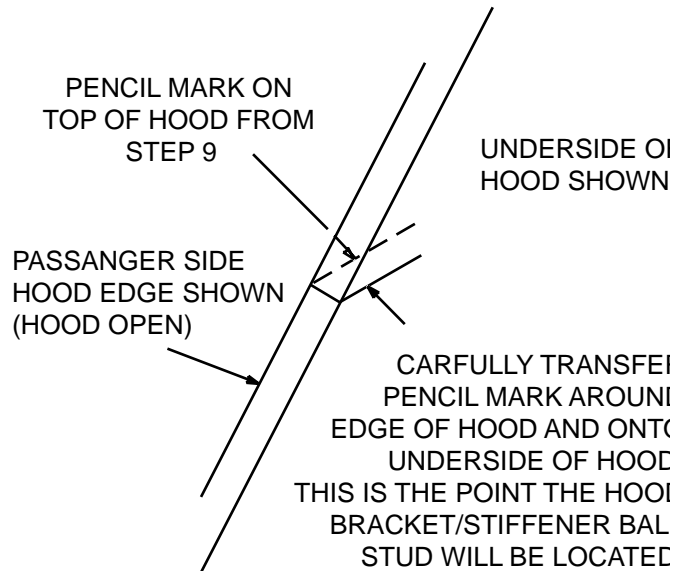

Figure 5
10. With the hood open and supported, carefully transfer the hood mark made in Step 9 to the under side of the hood. This will be the point the ball stud on the hood bracket/stiffener will be centered on. See Figure 5.